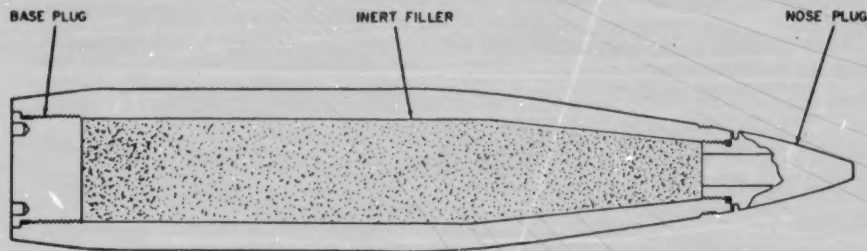

Figure 3-16.—Typical drill projectile, sectional view.
f. Drill projectiles (fig. 3-16) are used to exercise gun crews in loading drills and for testing ammunition hoists and other ammunition handling equipment. They are made of economical but suitable metals, and are designed to simulate the represented service projectile in size, form and weight. They may be solid or hollow. If hollow, they may be filled with an inert material to bring them to the desired weight. This latter type is closed with a base or nose plug or both, as appropriate.